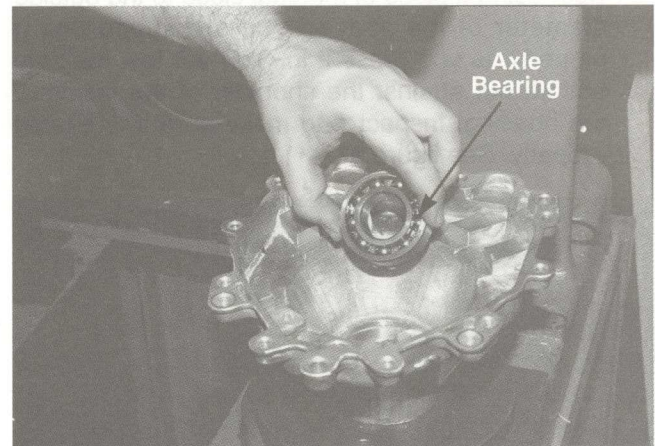

FIGURE 15.
15. When you press the axle out of the bearing, you will need to replace the bearing because it will be damaged during removal. See figure 15.